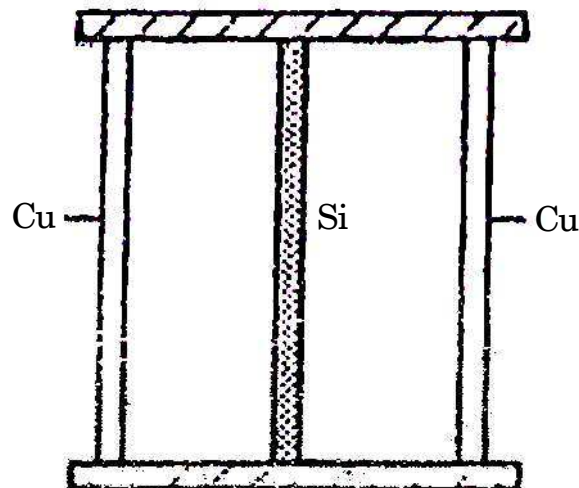

Fig. 1
- (c) Three rods each of length 1 meter and cross-sectional area 200 mm^2 are connected to rigid plates at the ends as shown in Fig. 1. If the temp. of the assembly is raised by 25°C , determine stress in each rod. [Refer Fig. 1]. Given :